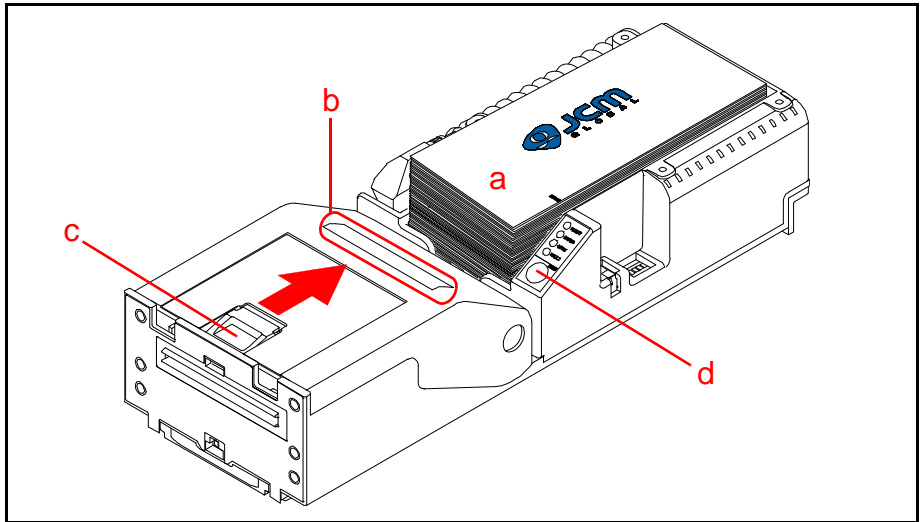

Figure 9 Disabling the Ticket Low Sensor
1. Pull the Ticket (Figure 9 a) out of the GEN5 Printer Ticket In Slot (Figure 9 b).
2. Press the Upper Lid Release Lever (Figure 9 c) toward the rear of the GEN5 Printer to open the Upper Lid.
3. Press and hold the FEED Button (Figure 9 d) for three (3) seconds.
2. Press the FEED Button twice within two (2) seconds to print the Configuration Ticket (refer to Figure 9 d on page 9).